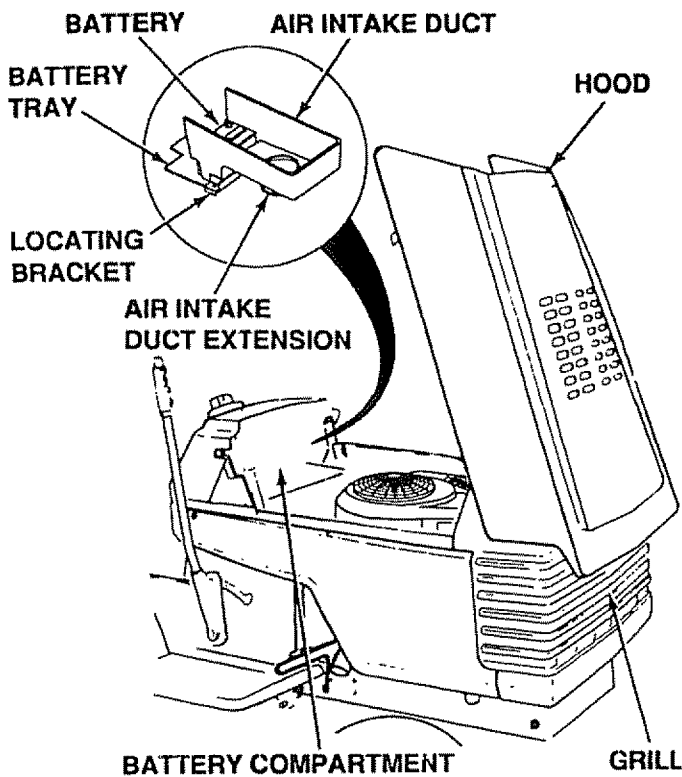

FIGURE 4
- Lift hood from rear sides (Fig. 4).
- h. Replace air intake duct (Fig. 4). Make sure bottom lip of duct sits between battery and lip of battery tray.
**BE SURE THAT THE AIR INTAKE DUCT IS PROPERLY PLACED IN ENGINE COMPARTMENT. IMPROPER LOCATION MAY RESULT IN DAMAGE TO THE AIR INTAKE DUCT DURING ENGINE OPERATION. SEE FIGURE 4 (INSET) FOR PROPER PLACEMENT.**